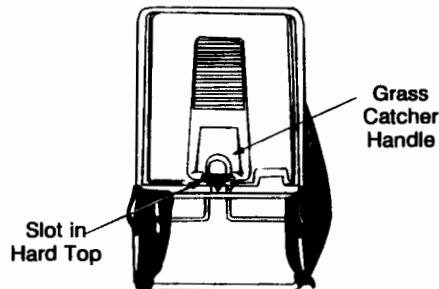

Figure 9
- Slide the handle on the grass catcher frame into the slot in the hardtop cover from beneath the cover. See figure 9.